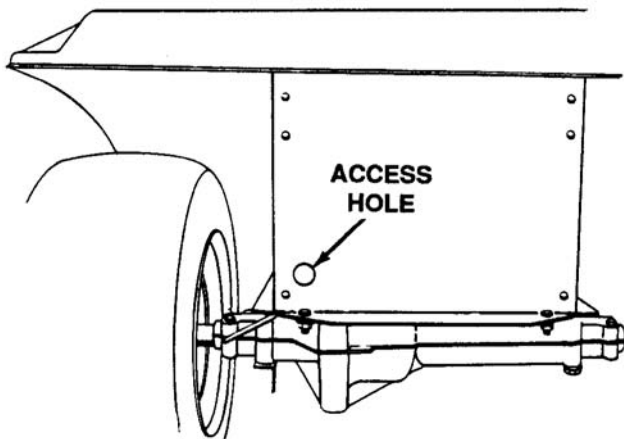

Figure 7-7. Location of Access Hole
- c. Disconnect the large spring from the transmission support bracket using a spring puller or other suitable tool. An access hole is provided in the rear of the frame for this purpose. See Figure 7-7.